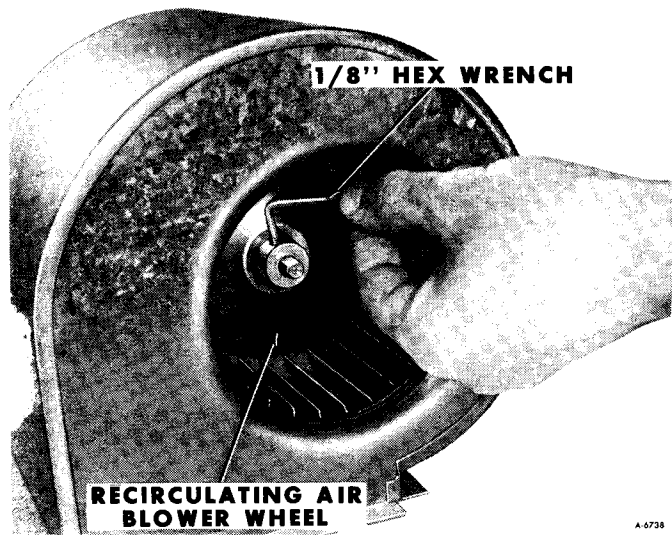

Figure 27—Loosening Recirculating Air Blower Wheel Retaining Screw
7. Loosen the recirculating air blower wheel retaining screw using a 1/8" hex wrench (figure 27).
3. Install recirculating blower wheel retaining screw (figure 27). Before tightening retaining screw be sure blower wheel is clearing both sides of blower housing. Also, be sure retaining screw is tightened onto flat surface on the blower shaft.